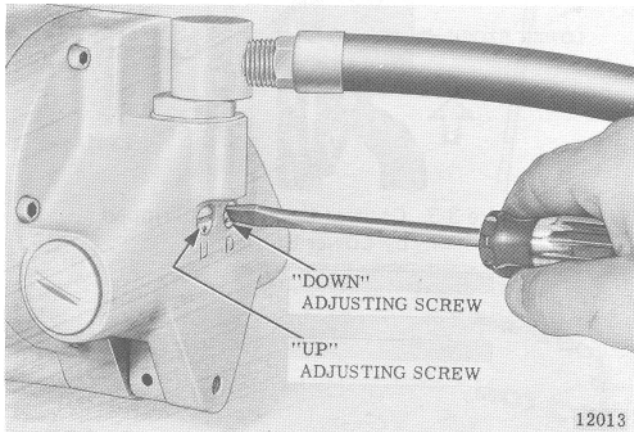

Figure 2-4. Hoisting and Lowering Speed Adjustment.
- b. To adjust the hoisting or lowering speed, turn appropriate regulator screw (Figure 2-4) in either direction a little at a time while operating hoist under load.